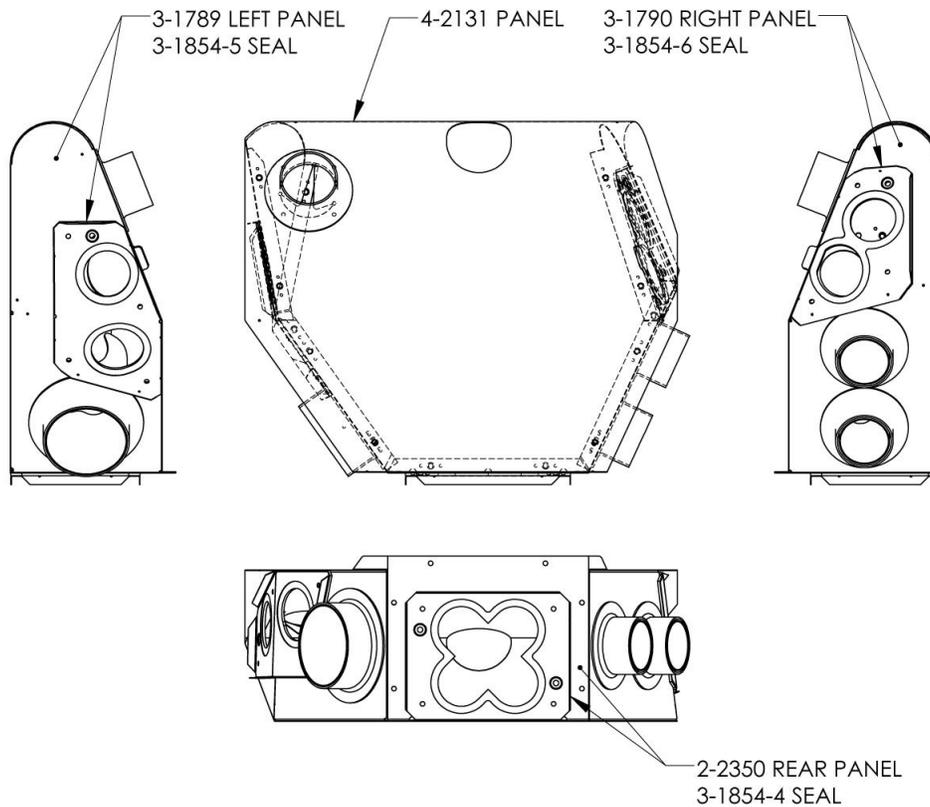

Figure 2, Shroud Seals
2. Replace 3-1791 shroud with revision A or later approved revision (component parts of the shroud are shown in figure 2 to aid with assembly). Discard original shroud components.
3. Assemble shroud and exhaust per service letter 451 and the AMM. Refer to figure 2 for the location of shroud components.